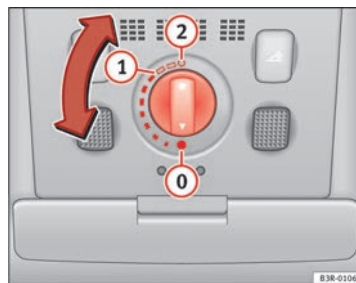

Fig. 81 Detail of headliner: Sliding/tilting sunroof control
The sliding/tilting sunroof is operated using the rotary knob  $\Rightarrow$  fig. 81. The rotary knob for sliding the roof open can be adjusted to several different settings (with click stops). This knob only works when the ignition is switched on. The rotary knob must be in the 0 position if you want to tilt the roof up at the rear.
- Turn the control until it engages at position ①  $\Rightarrow$  fig. 81. The sunroof will now only open as far as the convenience position which means there is less wind noise.
- Turn the control to position 0 ⇒ fig. 81 to close the sunroof ⇒ ⚠.
- Turn the control to position ① ⇒ fig. 81.